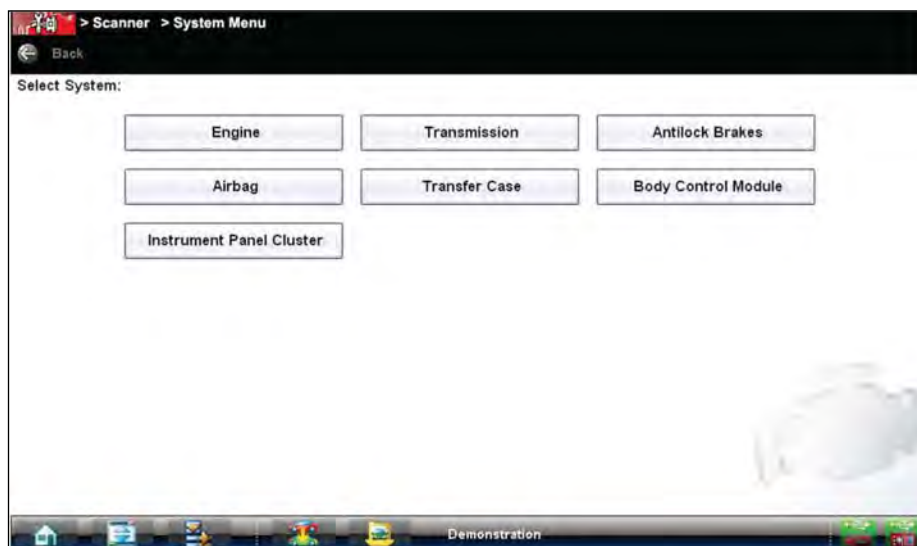

Figure 4-16 Sample available tests list
4. Select **OK** and a list of systems available for testing on the vehicle displays (Figure 4-16).